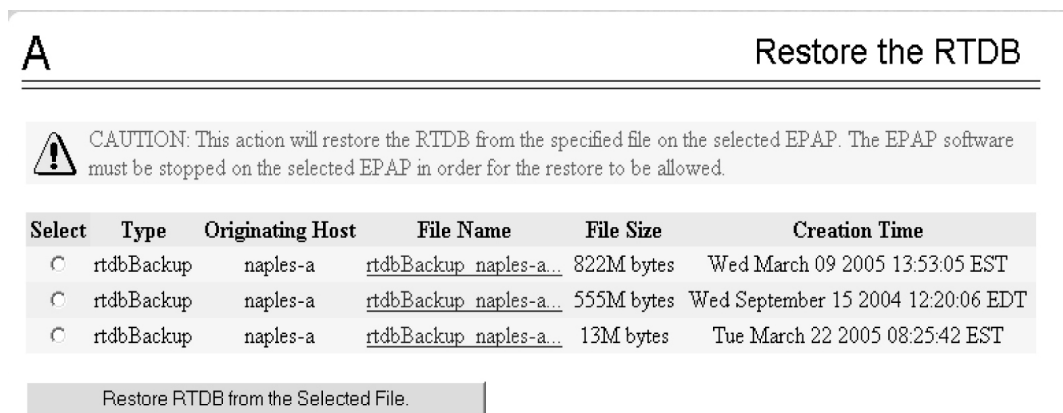

Figure 23: Restoring the RTDB
- Select **RTDB>Maintenance>Restore RTDB**. The screen shown in Figure 23: Restoring the RTDB displays:
- On the screen shown in Figure 23: Restoring the RTDB, select the file that was transferred in Figure 23: Restoring the RTDB. Click **Restore the RTDB from the Selected File**.